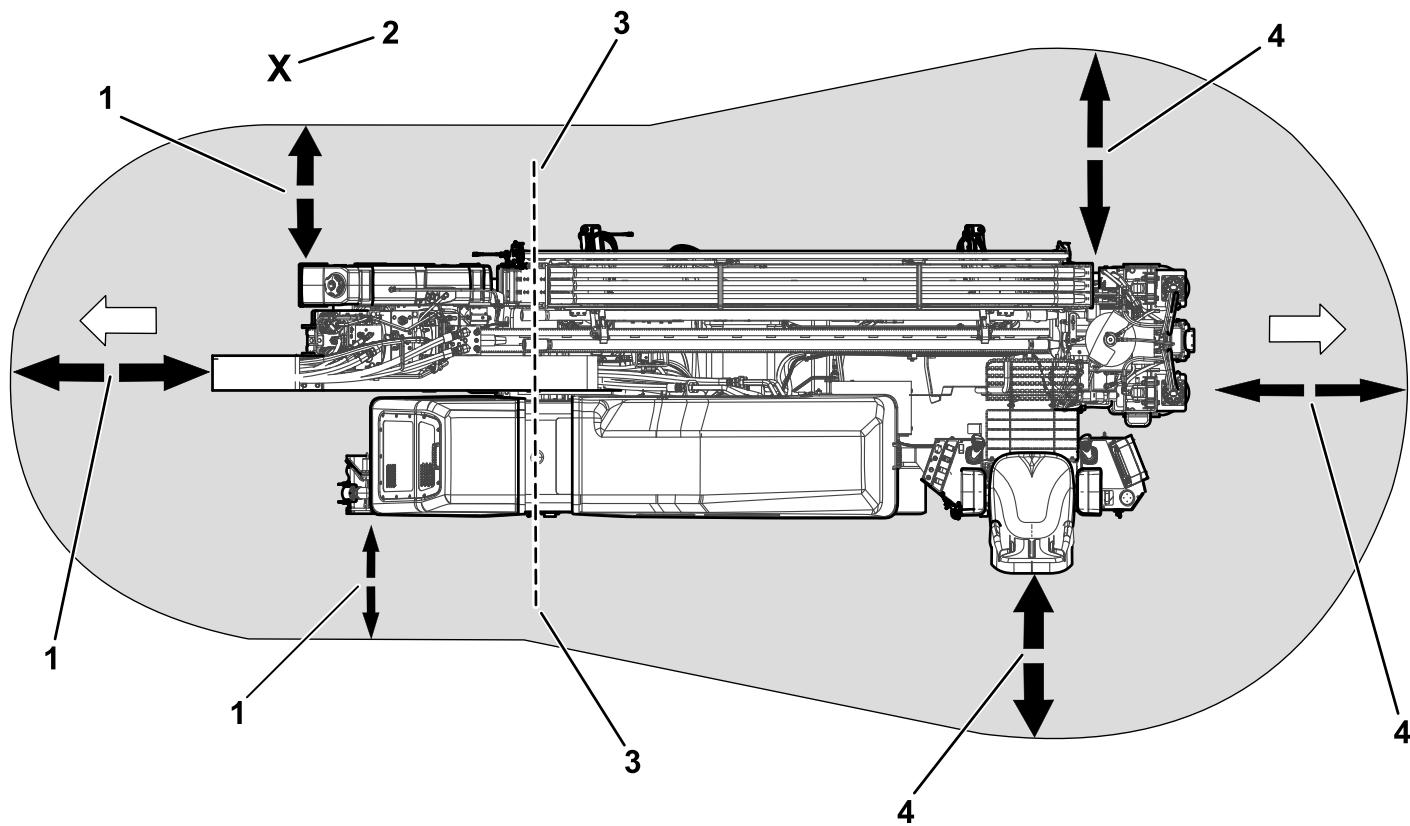

Figure 3
- Operate the travel pendant alongside the machine outside of the danger zone (Figure 3).